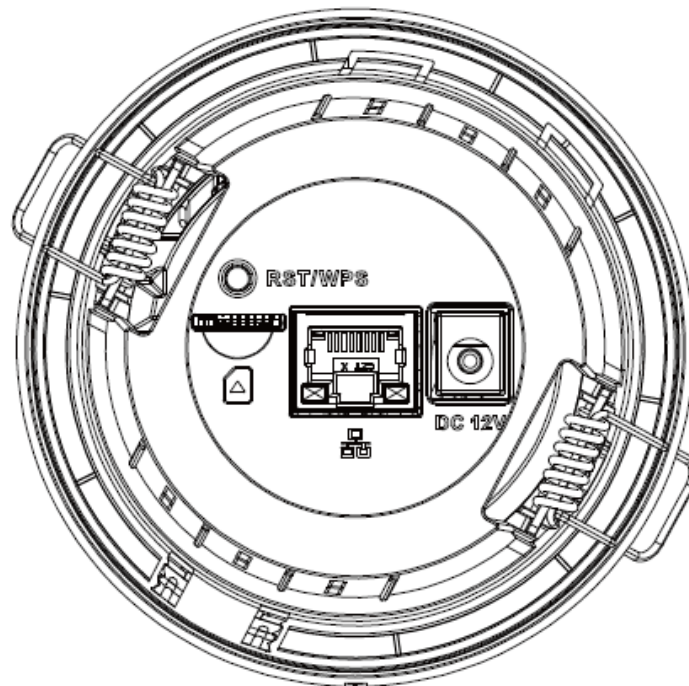

Figure 2-2
**Step 3** (Optional) Insert the Micro SD card into the SD card slot according to the direction shown in Figure 2-2.